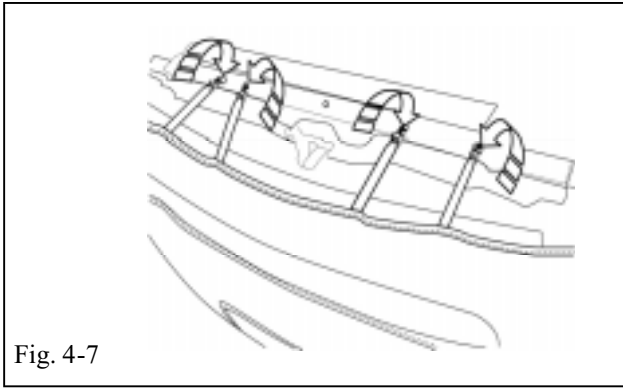

Fig. 4-7
- (g) Attach four (4) elastics with  hooks to the holes in the radiator support flange (Fig. 4-7.)